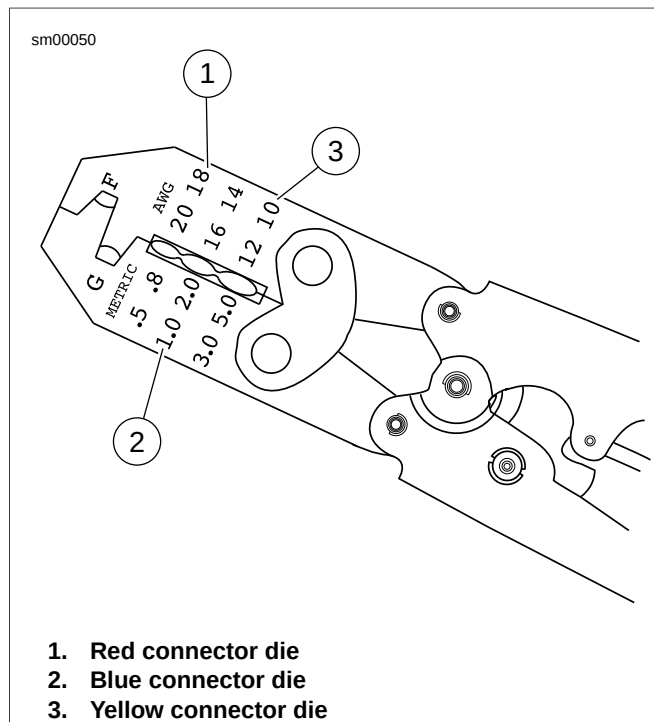

Figure A-62. Packard Crimping Tool (HD-38125-8)
- See Figure A-62. Open the PACKARD CRIMPING TOOL (Part No. HD-38125-8) ratchet by squeezing the handles closed.